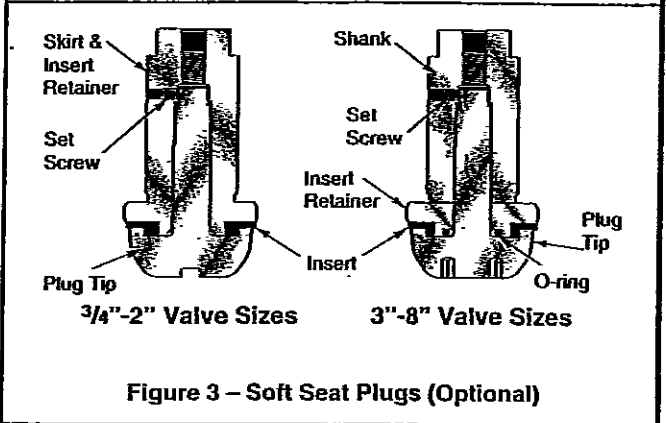

Figure 3 - Soft Seat Plugs (Optional)
7.7 Soft Seat Plug (Figure 3)
- a. Place new insert on shank and insert retainer as shown in Figure 3.
- b. Install new insert on insert retainer, assembling as shown in Figure 3.